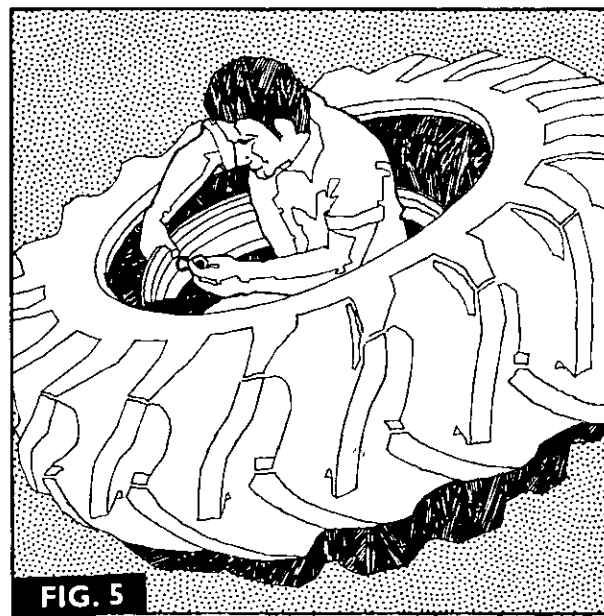

FIG. 5
1. Fig. 5. Inflate the tube until 'rounded out'. Place the tube in the tyre with the valve located in the valve hole. Refit the valve retaining nut finger tight.